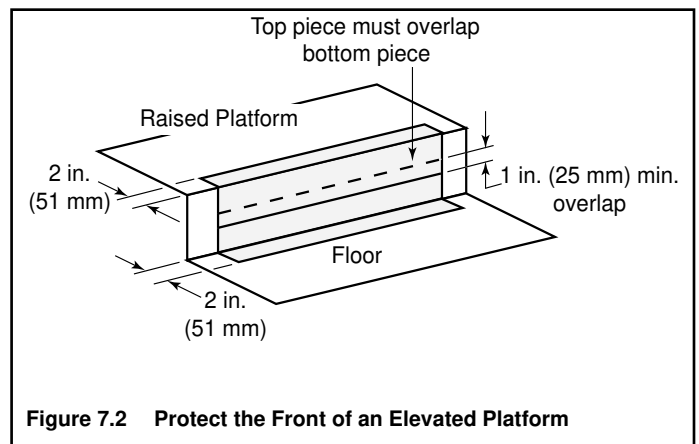

Figure 7.2 Protect the Front of an Elevated Platform
- Protect the front of a platform elevated above the hearth extension with metal strips (not included with fireplace) per Figure 7.2. See Section 11.C. for hearth extension instructions.